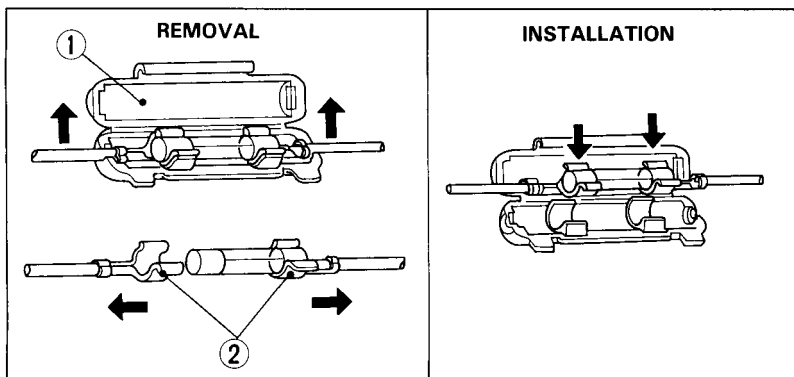

Fig. 4-21
2. Open the fuse holder (Fig. 4-21) and lift out the fuse with the clips (2).